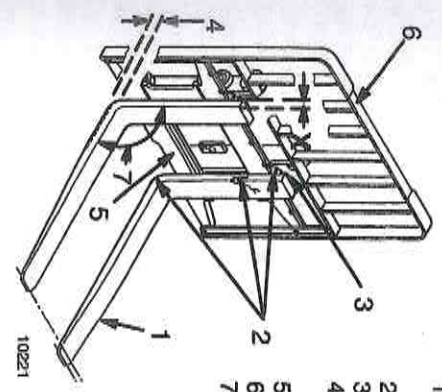
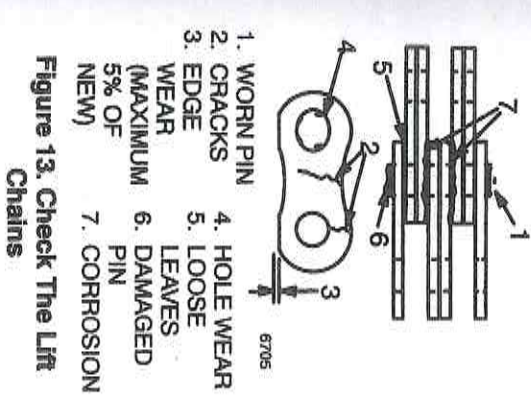

Figure 12. Check The Forks
Figure 13. Check The Lift Chains
4. Inspect the forks for cracks and wear. Check that the fork tips are aligned as shown in Figure 12. Check that the bottom of the fork is not worn (Item 4).
7. Inspect the lift chains for cracks or broken links and pins. See Figure 13.
Inspection Of Forks, Mast, And Lift Chains (See Figure 12, and Figure 13.)